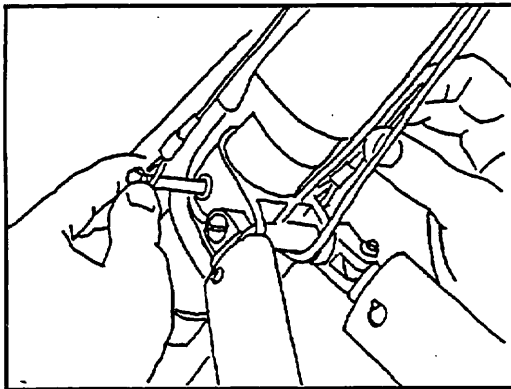

Figure 28
13) Next, install the crossbar sweep wire restraint bolt through the keel, attach the thimble for the sweep wire on the other side, and secure it with the wingnut and safety provided. (Figure 28, 29)